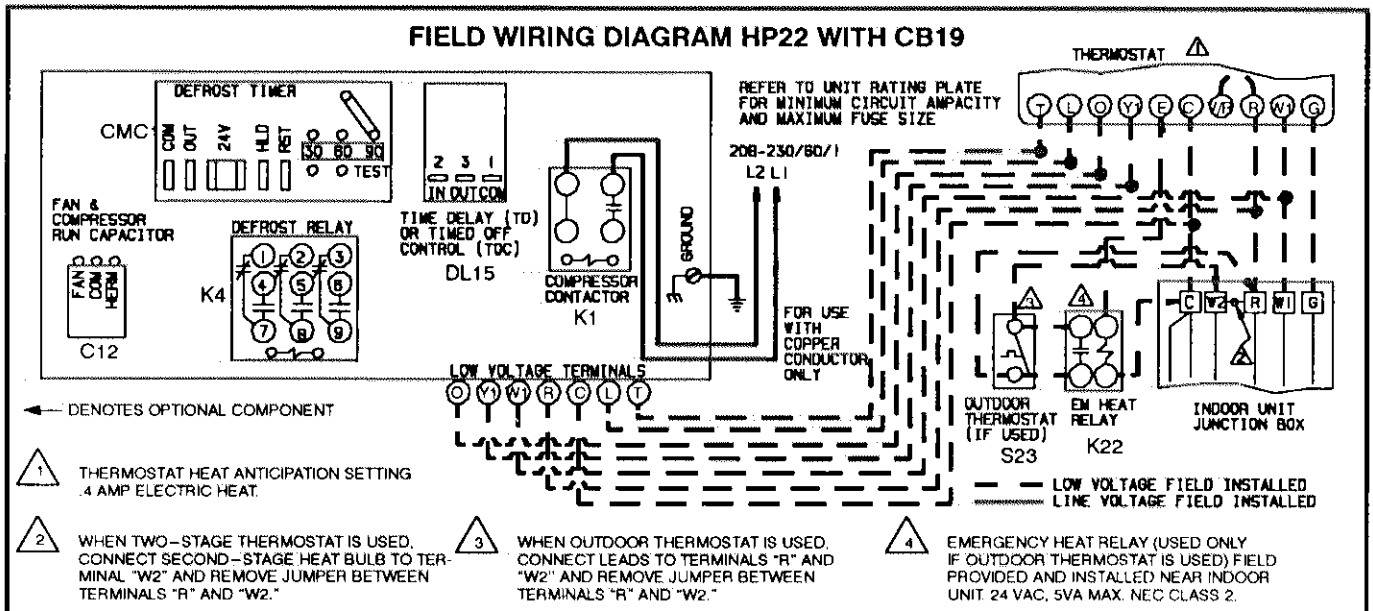
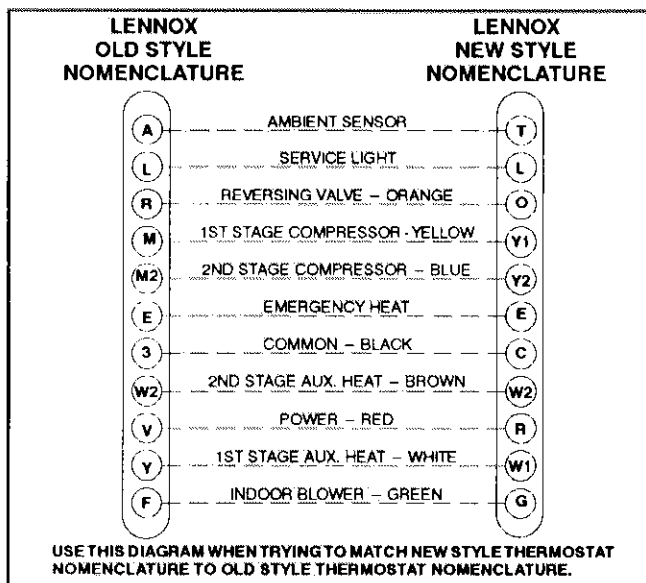

FIGURE 4
FIGURE 5
Wiring must conform to the National Electric Code (NEC) and local codes. Application diagram is included in this instruction (see figure 4) and in indoor unit instructions. Refer to figure 5 for new and old Lennox thermostat nomenclature. Refer to unit rating plate for minimum circuit ampacity and maximum fuse size.
- 3– Provide low voltage wiring from outdoor to indoor unit and from thermostat to indoor unit as indicated on the field wiring diagram in this instruction. See figure 4.
- 1– Provide line voltage power supply to unit from a properly sized disconnect switch. See figure 4.